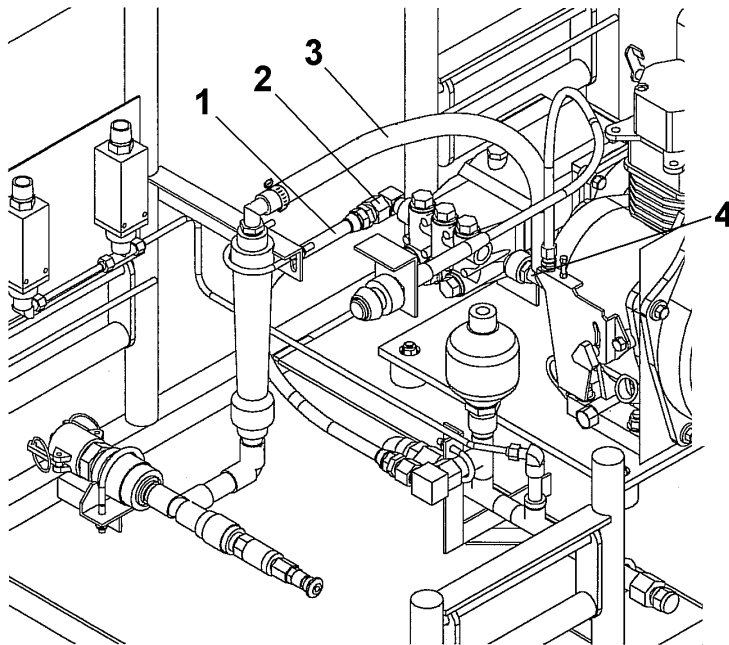

Figure 1. High-Pressure Pump Hose Removal.
1. Disconnect the inlet hose (3) and outlet hose (1) from the high-pressure pump. See Figure 1.
- a. Disconnect the inlet hose (3) from the elbow (4).
- b. Disconnect the outlet hose (1) by unthreading nut (2).